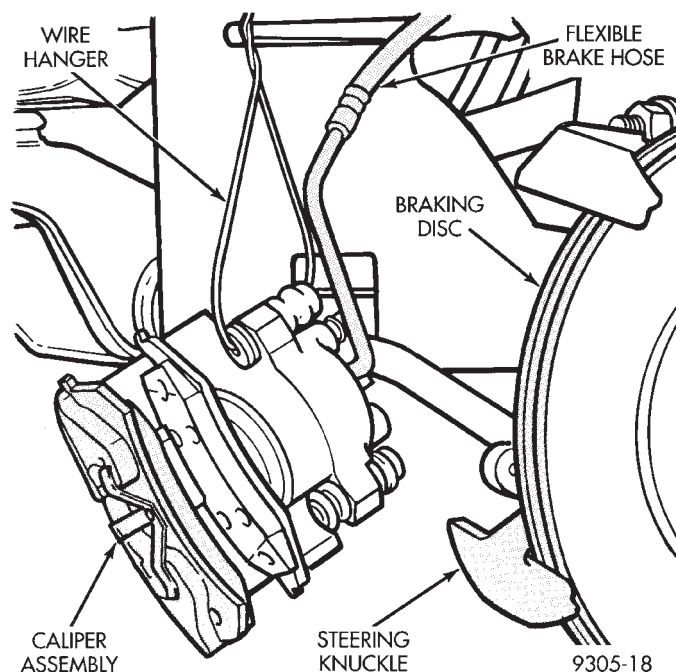

Fig. 32 Storing Caliper
(5) If the caliper is to be completely removed from the vehicle, remove the banjo bolt connecting the brake flex hose to the caliper. There will be 2 washers (one on each side of the flex hose fitting) that will come off at the same time.
(6) If the caliper is not being completely removed from the vehicle, support the caliper firmly to prevent weight of caliper from damaging the flexible brake hose (Fig. 32).